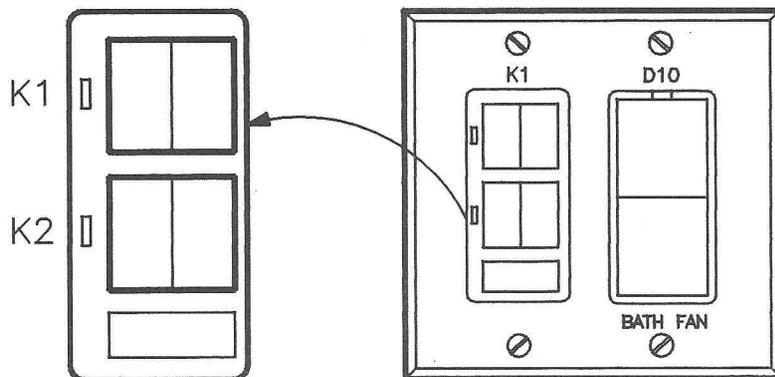

Figure 2-29 MASTER BATHROOM 2-BUTTON WALL TRANSMITTER & RECEIVER
**2-34 Master Bathroom:** The Master Bathroom has only two electrical loads to automate. This bathroom is different than the other bathroom because there are individual mechanical wall switches used to control each load. One of the loads is a 75 watt incandescent light and the other load is a 1/20 HP ventilation fan. Based on the home owner's requirements, the designer needs to control both the light and fan ON together by pushing one button. He also needs to push the other side of the button to have the light turn OFF while allowing the fan to run for 5 minutes before turning OFF in order to provide sufficient ventilation. The designer also needs to have a separate button to control just the light ON & OFF without the short response delay associated with an "indirect" transmission. To accomplish these requirements, the designer has selected a 2-button wall TRANSMITTER and has set the code to **K1** as shown in Figure 2-29. This TRANSMITTER is a PLC (LEVITON 6400/6450-2). The **K2-ON** side of the bottom button transmits signals to the Home Control CPU to turn both the light & fan ON together. The **K2-OFF** side of the bottom button transmits signals to the